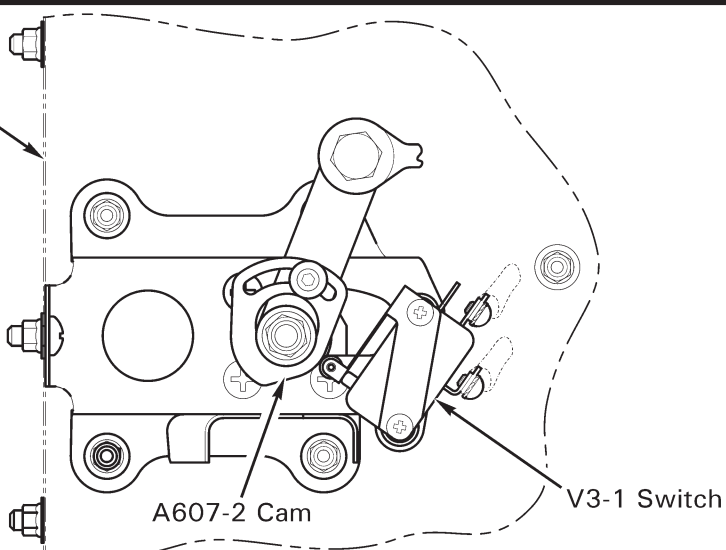

FIGURE 37-1 FULL THROTTLE CAUTION LIGHT RIGGING CHECK
- i. **IO-540:** Refer to Figure 37-1. Verify gap from throttle stop to fuel control nylon stop is 0.25–0.30 inch. Adjust switch as required per step 2.
- ii. **O-540:** Refer to Figure 37-1. Verify gap from throttle stop to corner of throttle body full-throttle stop is 0.054–0.070 inch. Adjust switch as required per step 2.
- i. **IO-540:** Refer to Figure 37-1. Raise collective full up, rotate (throttle) twist grip as required, loosen screw, and pivot A607-2 slotted cam (in throttle linkage, forward of vertical firewall) so V3-1 switch activates when throttle stop is approximately 0.027 inch from fuel control nylon stop. Tighten screw.
- ii. **O-540:** Refer to Figure 37-1. Raise collective full up, rotate (throttle) twist grip as required, loosen screw, and pivot A607-2 slotted cam (in throttle linkage, forward of vertical firewall) so V3-1 switch activates when throttle stop is approximately 0.062 inch from corner of throttle body full-throttle stop. Tighten screw.